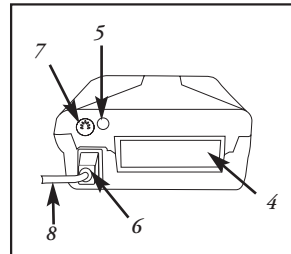

Figure 3
- Insert the appropriate power cord into the AC power connector (**Figure 3**).